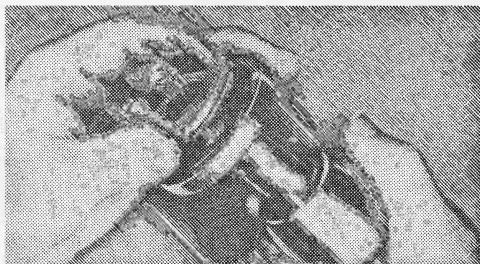

Fig. 10-34.
2. Insert the knob through the outside rosette and frame (Fig. 10-34), pushing and rotating simultaneously until it is fully assembled. The keyway cam and spindle ears should be positioned at the open end of the lock frame.